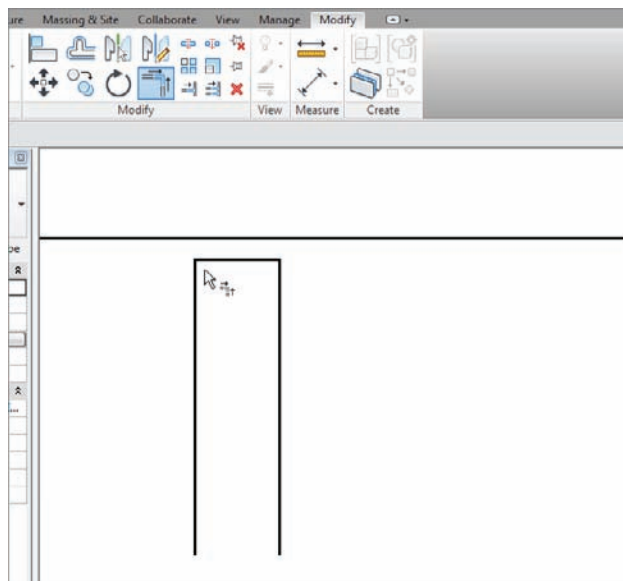

FIGURE 12.65 Trimming the corners
18. Click the Trim/Extend To Corner button on the Modify tab, as shown in Figure 12.65.
19. Trim the edges of the top of the wall, as shown in Figure 12.65.